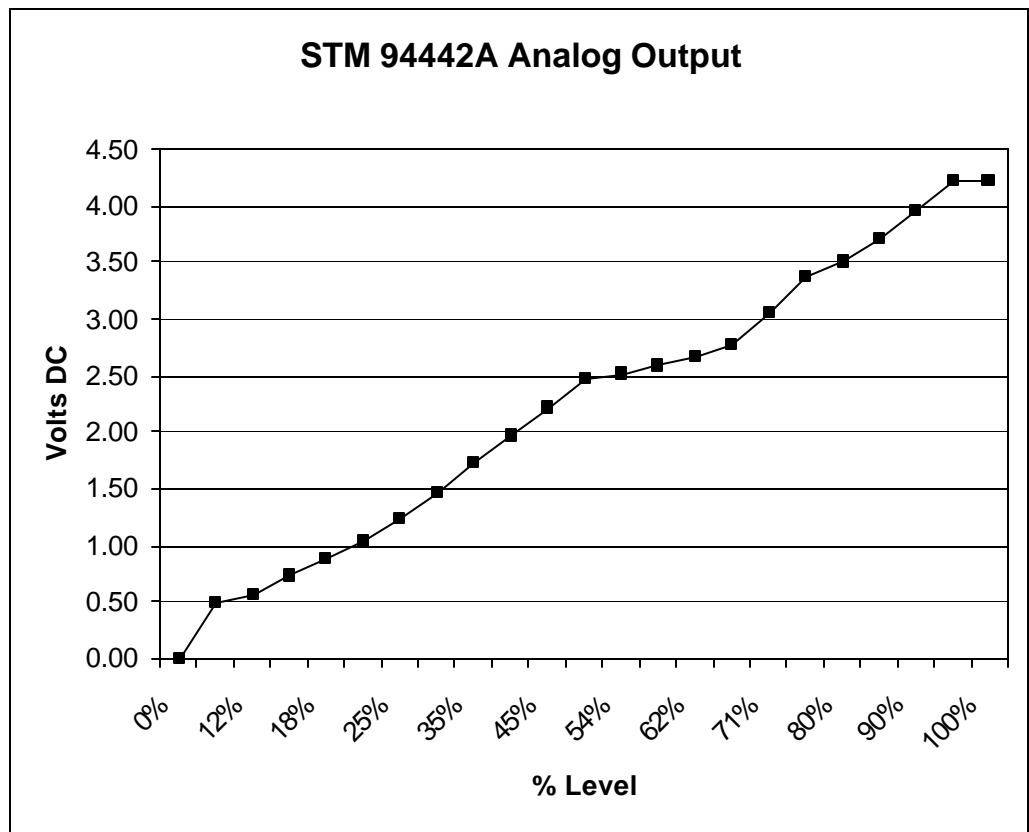
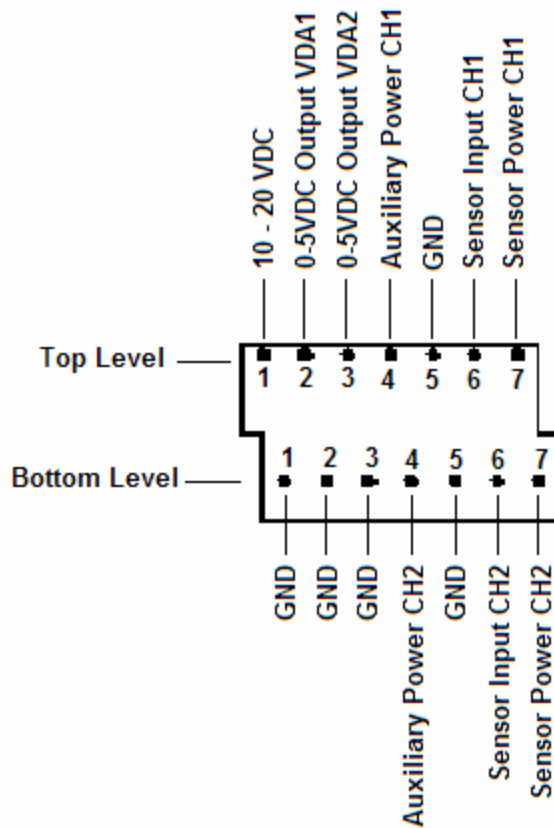

Figure 3
Figure 4C – TB1
A 0-5 Volt analog output is also provided for each channel. This output is typically used to connect to a remote monitoring device, programmable controller, etc. in order to access LPG tank levels. For Channel 1 connect to TB1-Top Level-2 and TB1-Bottom Level-2 and for Channel 2 connect to TB1-Top Level-3 and TB1-Bottom Level-3 (refer to figure 4C below). Figure 3 shows a graph of the analog output versus the LPG level. This output can be connected to a signal conditioner to provide a 4-20 mA signal indicative of the LPG level. Refer to figure 4 for more details on connection to external devices.
- 4) Connect Relay contacts and Analog outputs as desired. Refer to figure 3 for connection details.